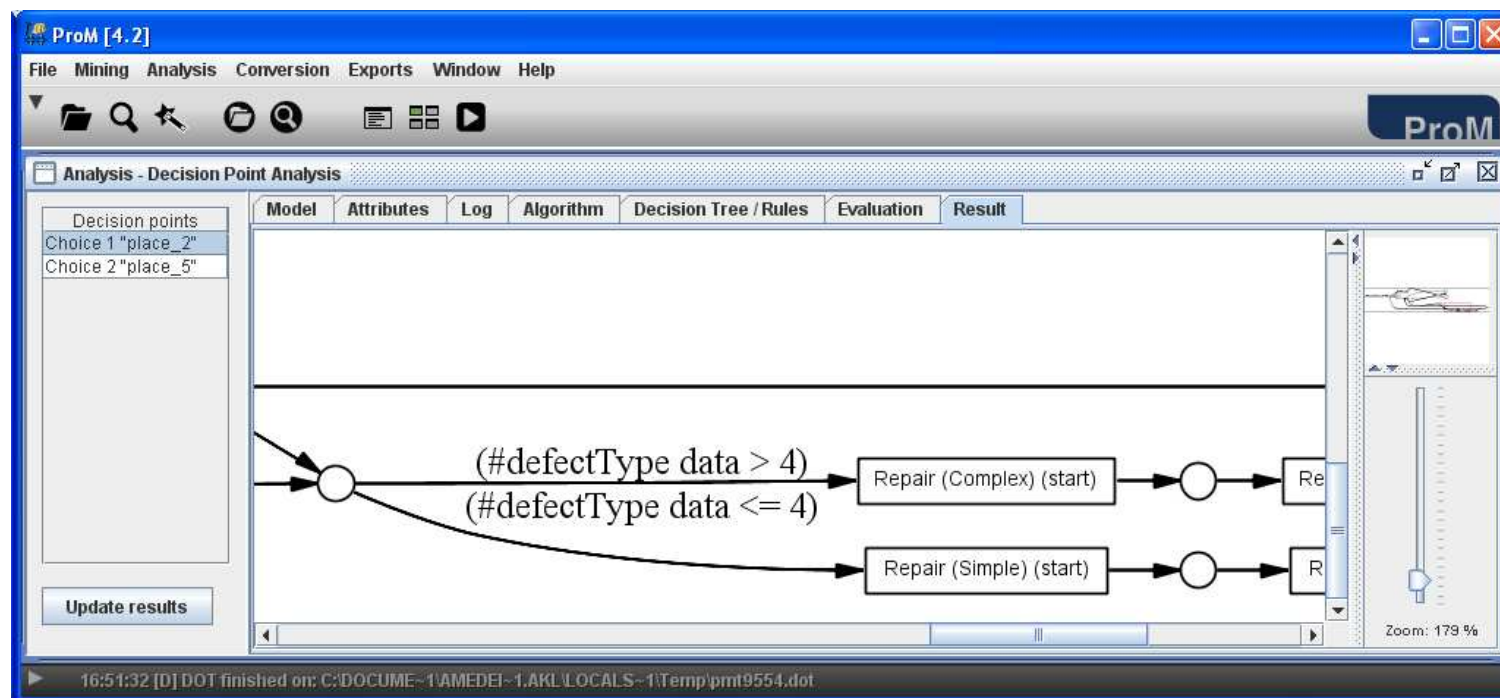

Figure 4.4: Screenshot of the analysis plug-in *Decision Point Analysis*: *Result* tab.
6. Select the tab *Result* to visualize the mined rules (cf. Figure 4.4). Note that cases with a defect types from 1 to 4⁴ are routed to the task “Repair (Simple)” and the ones with defect type bigger than 4 are routed to the task “Repair (Complex)”. This is the rule that covers the *majority* of the cases in the log. However, it does not mean that all the cases follow this rule. To check for this, you have to perform the next step.